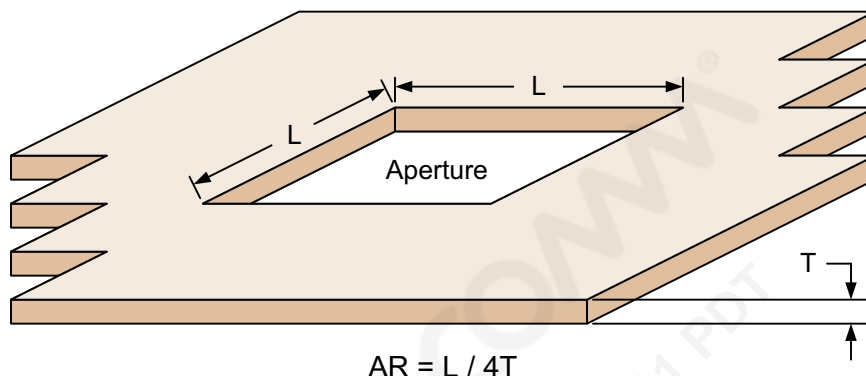

Figure 6-1 Stencil printing aperture AR
One key parameter that should be evaluated is the ratio of aperture area to sidewall area, known as the area ratio (AR). QTI recommends square apertures for optimal solder paste release. In this case, a simple equation can be used relating the side length of the aperture to the stencil thickness (as illustrated and explained in Figure 6-1). Larger area ratios enable better transfer of solder paste to the PCB, minimize defects, and ensure a more stable printing process. Inter-aperture spacing should be at least as thick as the stencil, otherwise paste deposits may bridge.